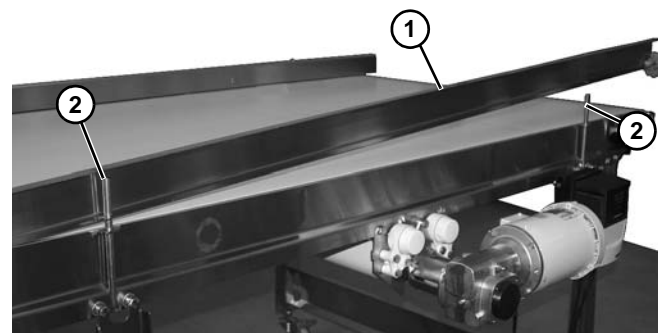

Figure 23
3. Install guide (Figure 23, item 1) onto the guide posts (Figure 23, item 2).